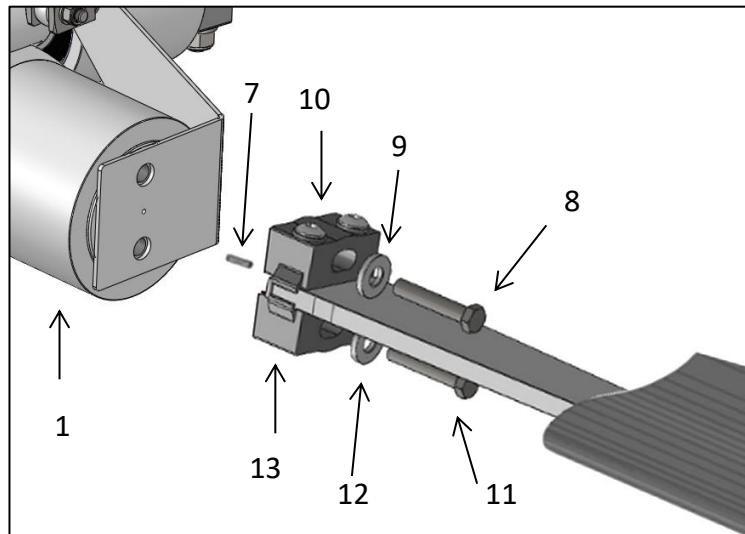

Figure 10 – Blade installation
- 1 For secondary adjustment only: loosen the two bolts connecting blade to hub (8 and 11) (figure 10).